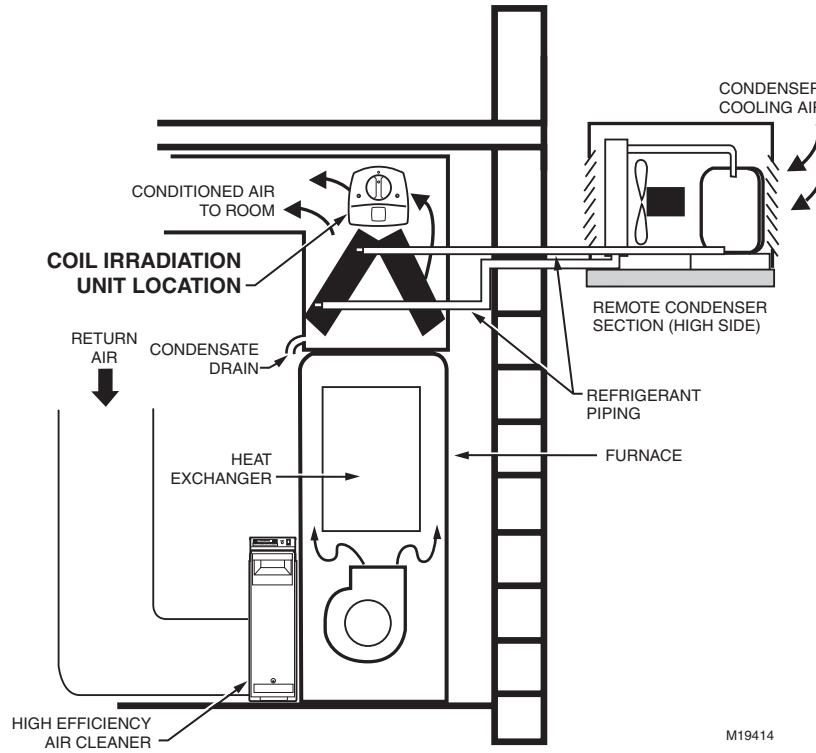

Fig. 1. Mounting location for Ultraviolet Coil Irradiation Air Treatment System.
2. Determine the location for installation (see Fig. 1):